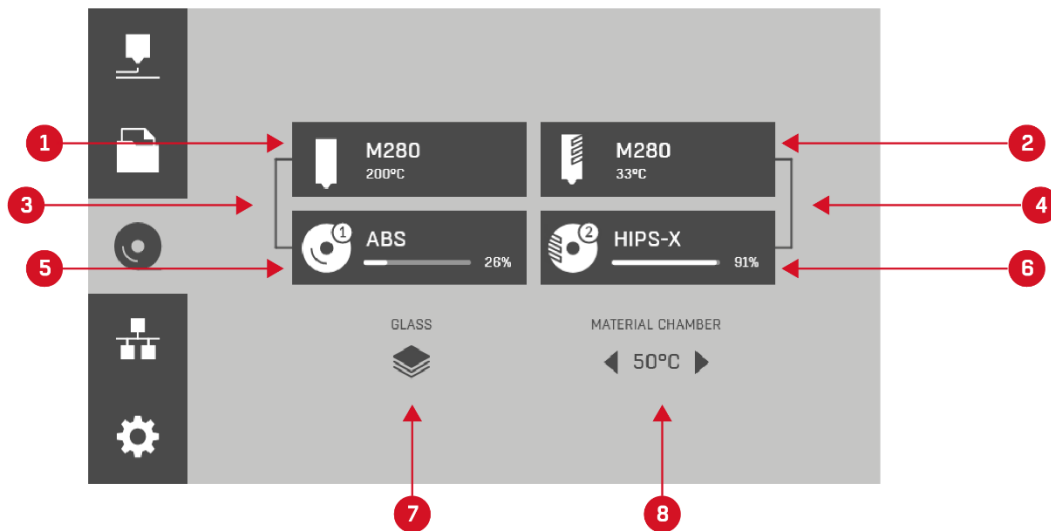

Fig. 34 Materials screen
3. **Materials button** – press to go to the screen for the printing module, printing materials, the heatbed and the temperature in the material chamber (section IV, subsection 1.2, Fig. 34).
Use the “materials” button to access the screen where the hotend icons in the printing module and the icons for material bays are shown (Fig. 34).